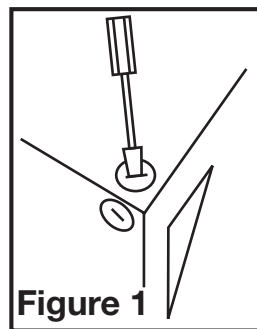

Figure 1
3. Select the most convenient electrical knockout and remove using a straight-blade screw driver (**Figure 1**).